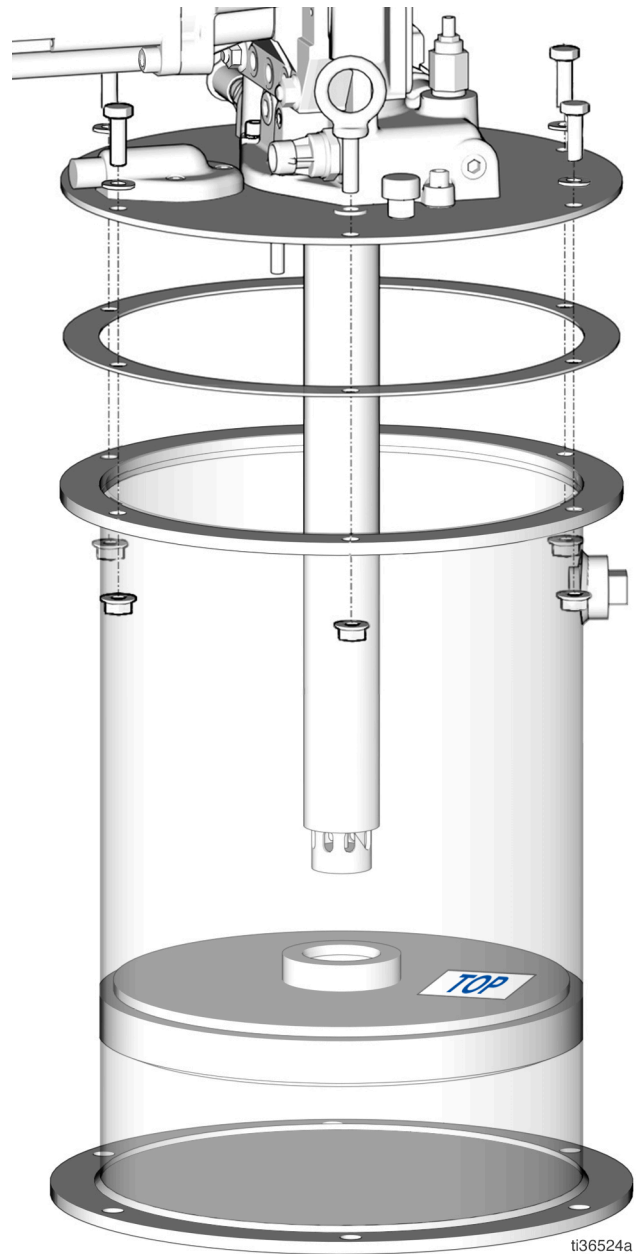

FIG. 13
7. Replace the cover, tank gasket, and pump on to the tank (FIG. 13).